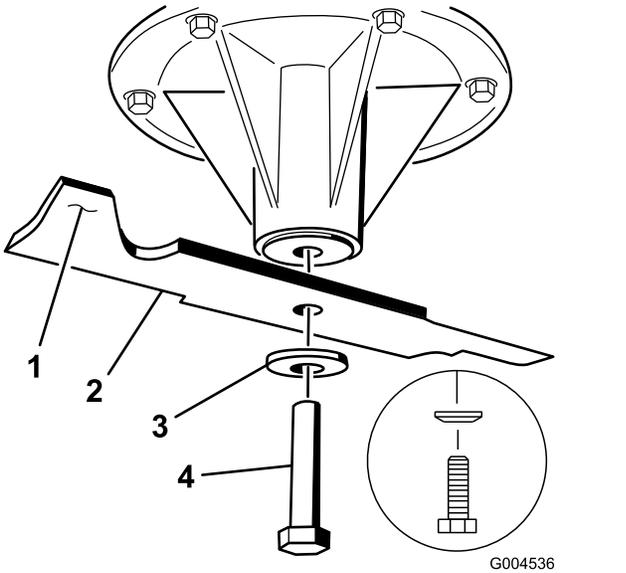

Figure 97
2. Remove the blade bolt, the curved washer, and the blade from the spindle shaft (Figure 97).